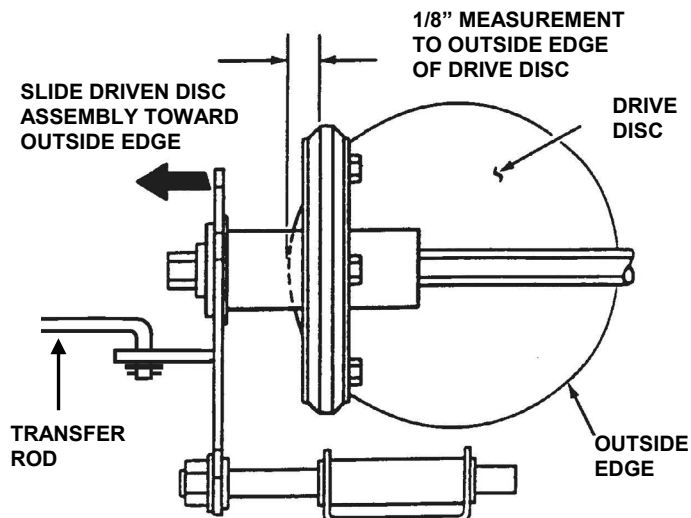

FIGURE 10
2. Manually adjust driven disc to position shown in Figure 10.
6. Slide Ground speed lever back, then fully forward again. Check driven disc position. If needed, repeat #5 above until 1/8" in Figure 10 is maintained, then tighten jam nut securely against ball joint.